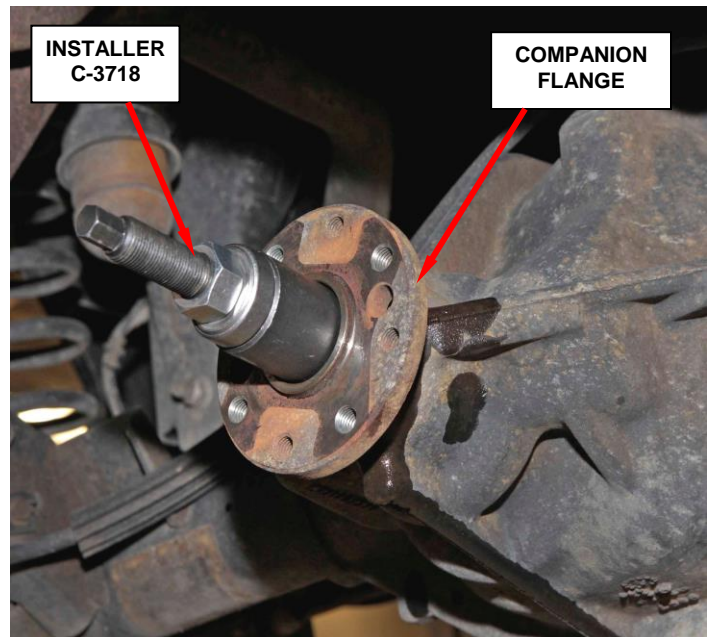

Figure 27 – Companion Flange Installer C-3718
25. Install the companion flange with Installer C-3718 and Position Holder 6719A (Figure 27).